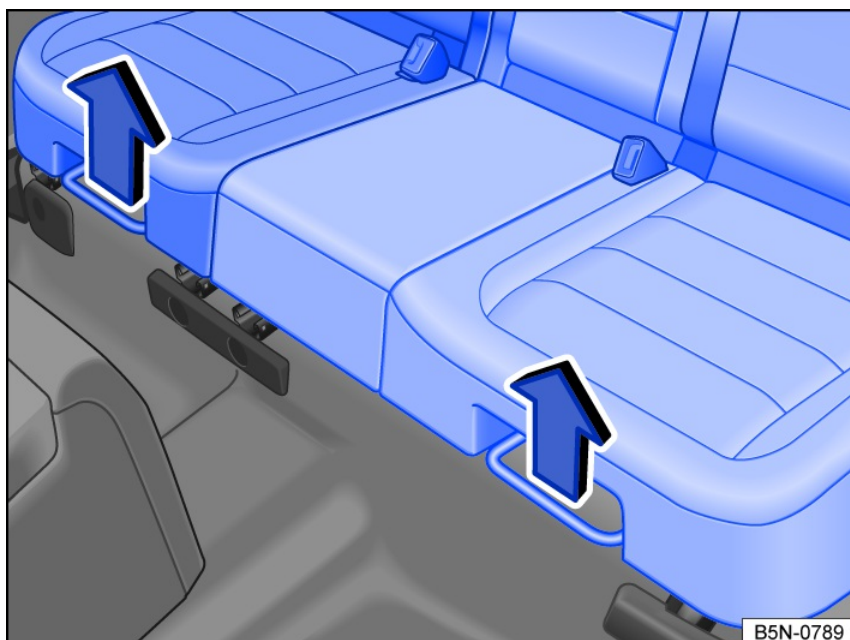

Fig. 80 Under the seat surface in the rear bench seat: adjusting bracket.
- Pull the right or left lever upward in the direction of the arrow *fig. 80* and slide the corresponding section of the rear bench seat forward or backward → *Introduction on page .*